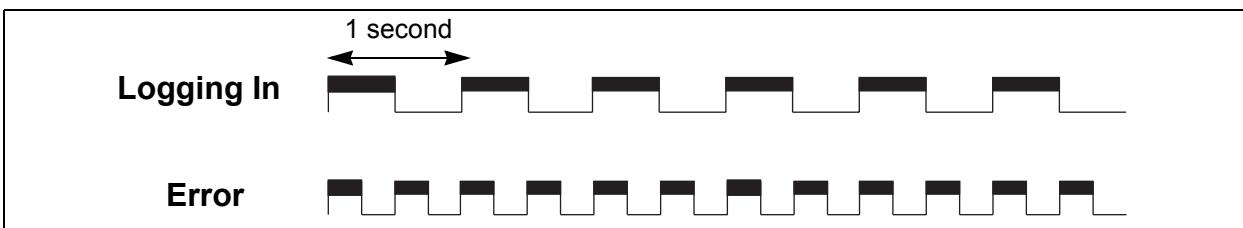

Figure 5-2. Port Status LED Indications
- Logging in - Flashes at roughly once per second as shown in Figure 5-2.
- Error - Flashes at roughly twice per second as shown in Figure 5-2.